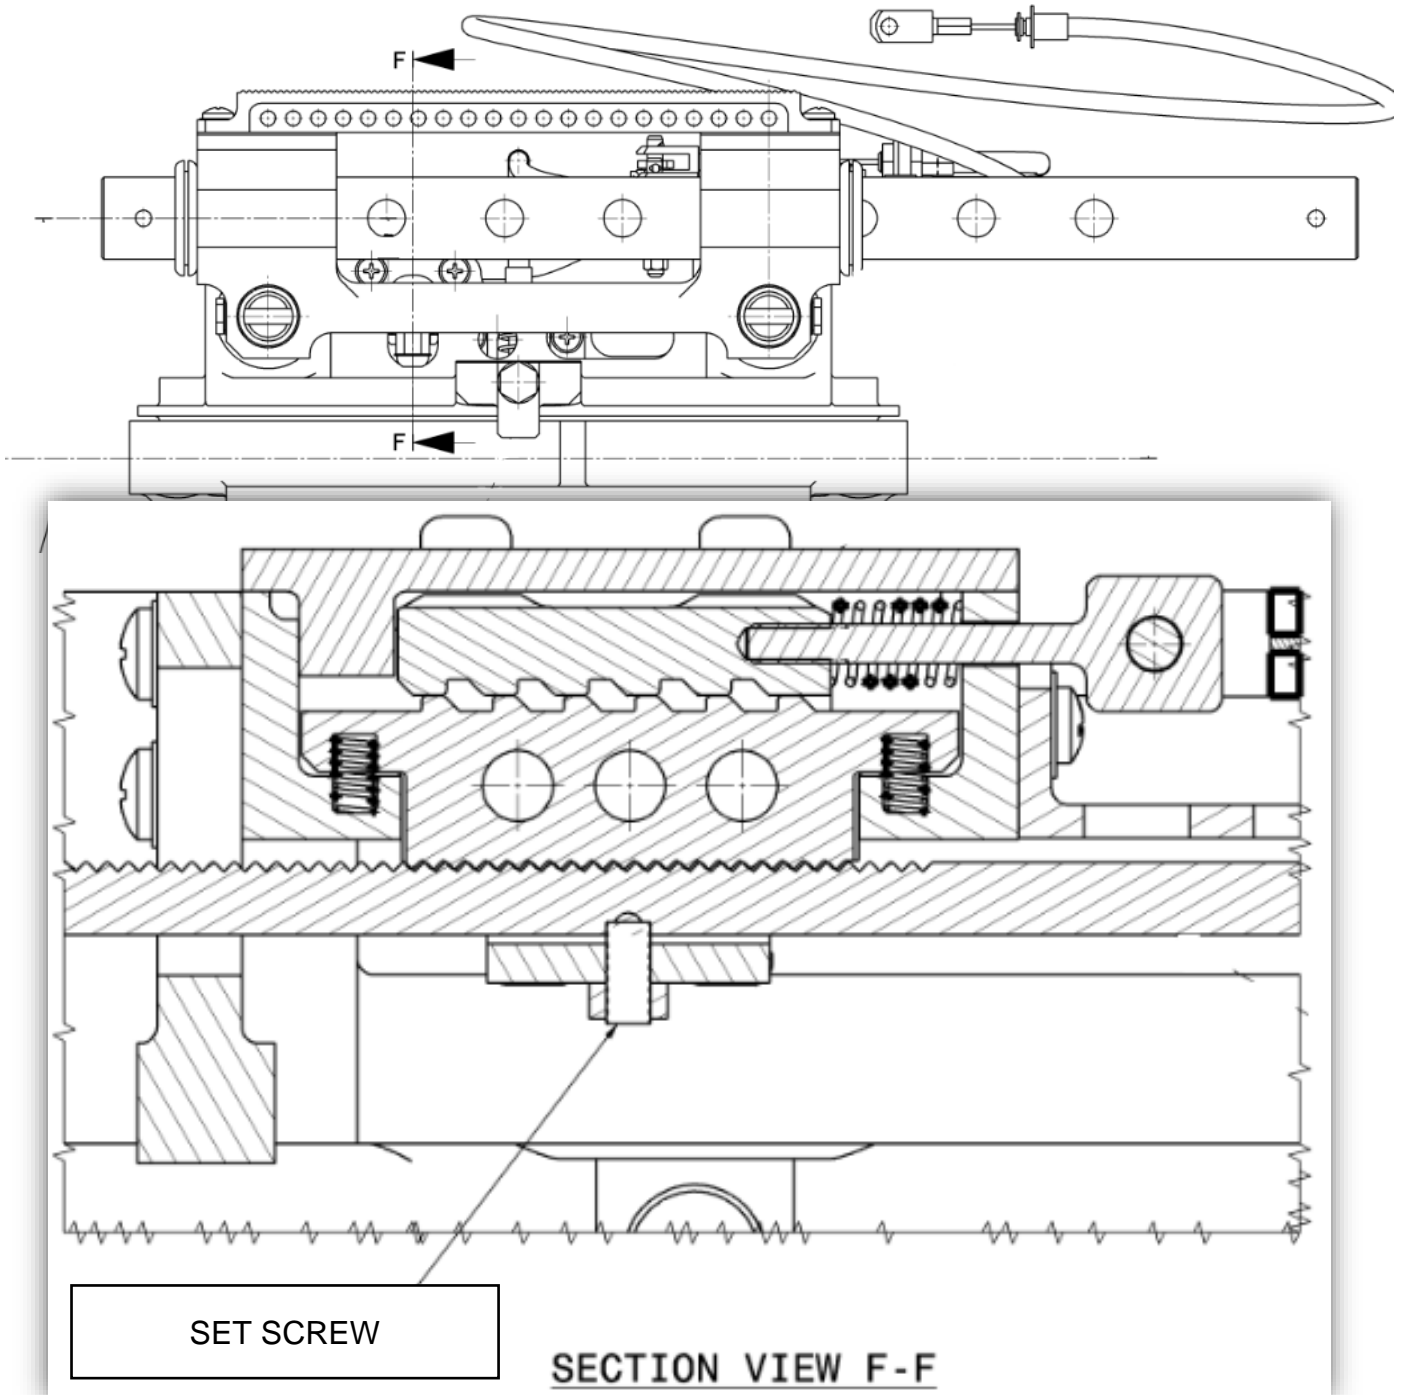

FIGURE 5
- a. Remove the set screw on the bottom of the lateral brake mechanism assembly (7-40) as shown in figure 5.